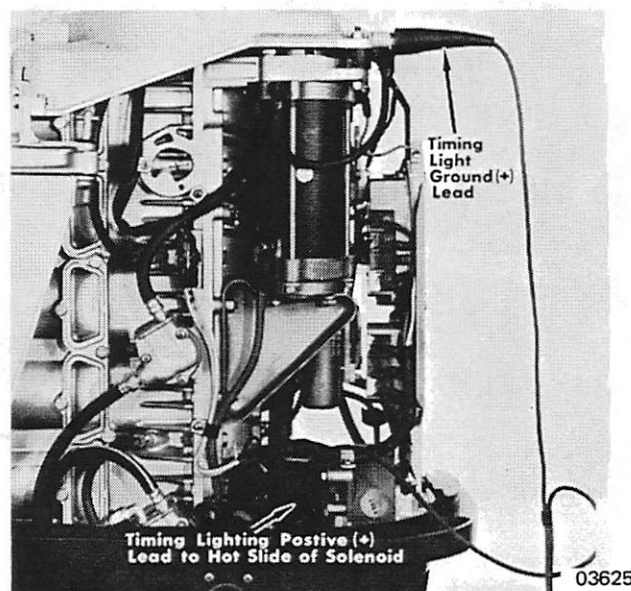

Figure 4. Black Lead Connected to Ground Terminal 03625
3. Connect large, red lead to No. 1 spark plug and connect one lead to ground terminal on bottom cowl or front cover plate (Figure 4) and one lead to hot side of starter solenoid.